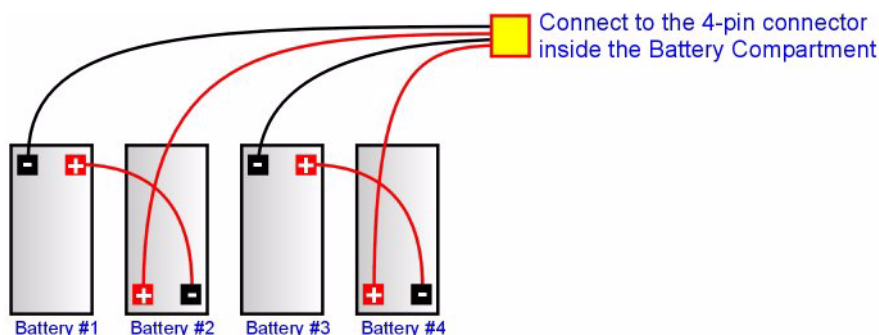

FIG. 3 Connecting the batteries to each other and to the 4-pin connector
1. Remove the batteries from their packing material and stand them upright on the bottom of the battery case, making two pairs. Alternate the batteries so the contacts of one in each pair are opposite the contacts of the other. (See FIG. 3)